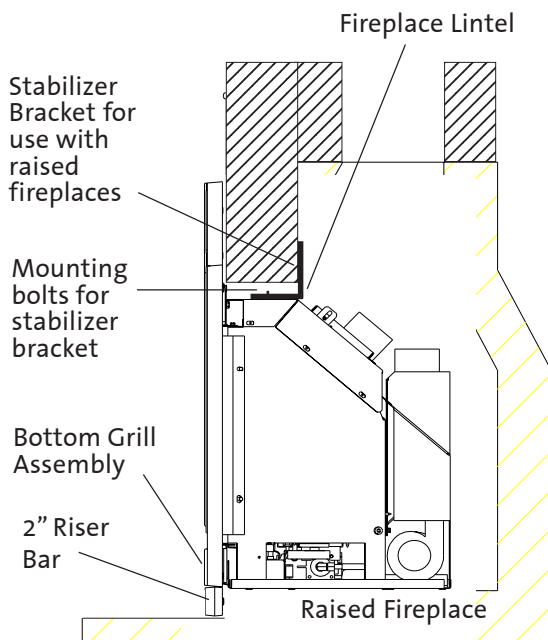

Figure 22. Installing the Stabilizer Bar.
RISER BAR: The 2" riser bar is used in conjunction with the standard surround, and is only needed in the event that the fireplace opening is between 27 1/2" and 29 1/2" high. The riser bar can be used in any installation if desired. See fig. 22.
1. If the riser bar is to be used the insert must be lifted 2" off the floor of the fireplace to allow for the riser bar to fill the space below the bottom grill assembly. Exception: in raise fireplace installations the riser bar may extend toward the hearth. See fig. 22.
NOTE: DUE TO THE WEIGHT OF THE SURROUND AND RISER BAR IT MAY BE NECESSARY TO UTILIZE THE **STABILIZER BAR** THAT IS SHIPPED WITH THE UNIT. THIS STABILIZER ATTACHES TO THE OUTSIDE OF THE FIREBOX AND WILL BRACE THE UNIT AGAINST THE FIREPLACE LINTEL PREVENTING THE UNIT FROM LEANING FORWARD. See figs. 22 and 22A.